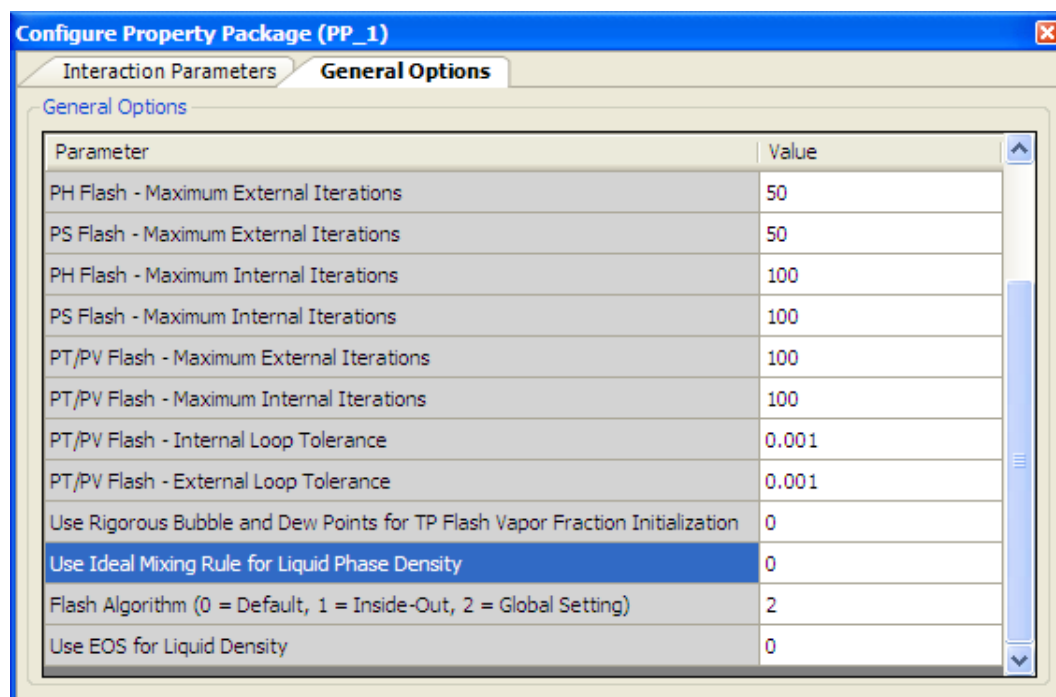

Figure 7: Property package configuration window for EOS-based models.
**Property Package configuration** If the selected property package has any editable property, the "Configure" button becomes clickable and the user can click on it to show the property package configuration window. For instance, with the SRK property package the editable parameters are the binary interaction parameters (Figure 6) and some convergence/tolerance values for flash calculations (Figure 7).